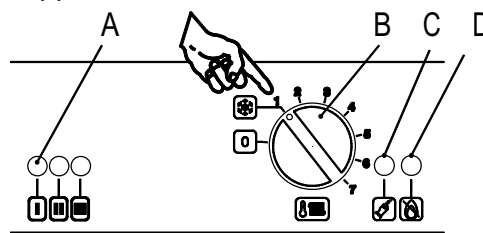

Figure 5.2
- 2 Turn on the electricity supply to the boiler switching on the circuit breaker. The appliance operation light A (figure 5.2) will flash every 4 seconds (stand-by condition).
- 3 If the boiler is to be used for c.h. position the function selector B as in figure 5.2. The appliance operation light A will flash every 2 seconds (operating boiler).
- The appliance operation light A (figure 5.2) will flash every 4 seconds (stand-by mode).